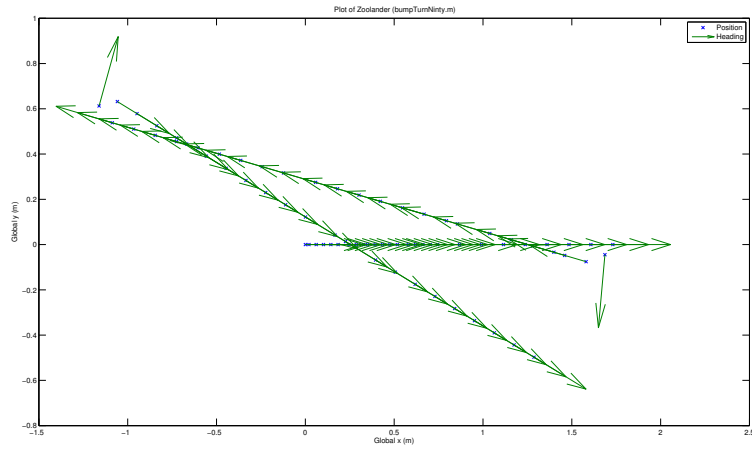

Figure 6: Data from simulating bumpTurnRightNinty.m
4. My boring robot program is called 'Zoolander' because the robot always turns right 90 degrees when it encounters an obstacle. It cannot turn left. See figure 6